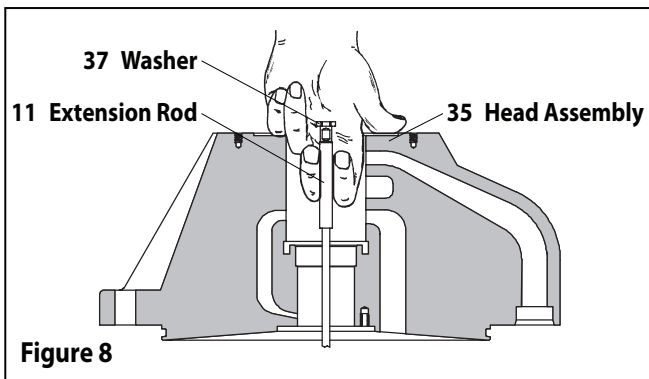

Figure 8
25. Place the (12) lower washer over the (11) extension rod.
26. Pull the (11) extension rod up and grasp with two fingers, (see figure 8).